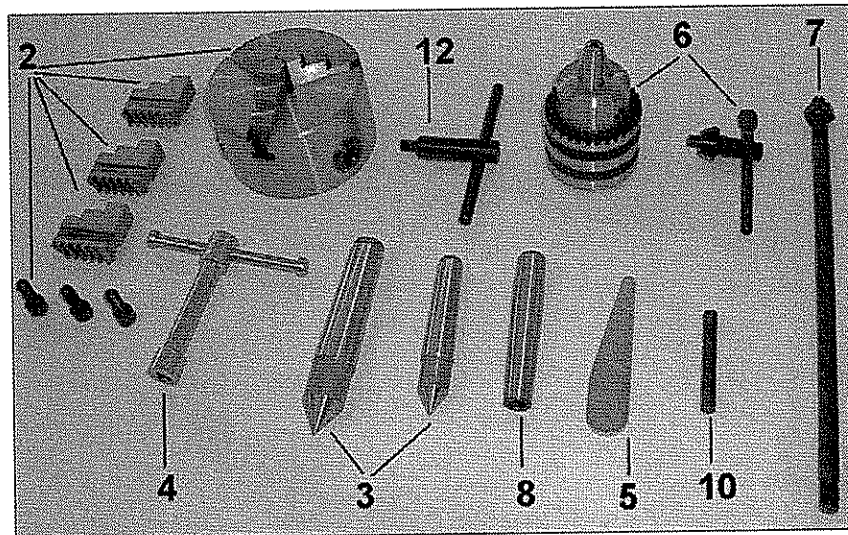

Fig. 5.
6.3. Open the box of accessories and check the accessories according to the photo shown below (Fig.5). Check them with the Packing List (page 44).